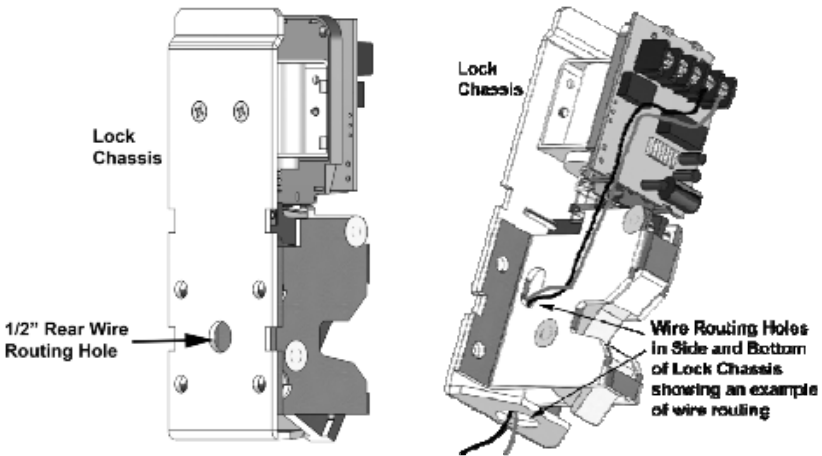

Figure 7. Wire Routing
3. ROUTE all electrical wiring through either the provided wire conduit coupling in the bottom of the lock chassis or through the 1/2" [12.7 mm] hole in the rear of the lock mounting chassis (see Figure 7, "Wire Routing").
5. **IF** there is no cylinder lock installed, **THEN** FEED wires through either side of the lock chassis (see Figure 7).